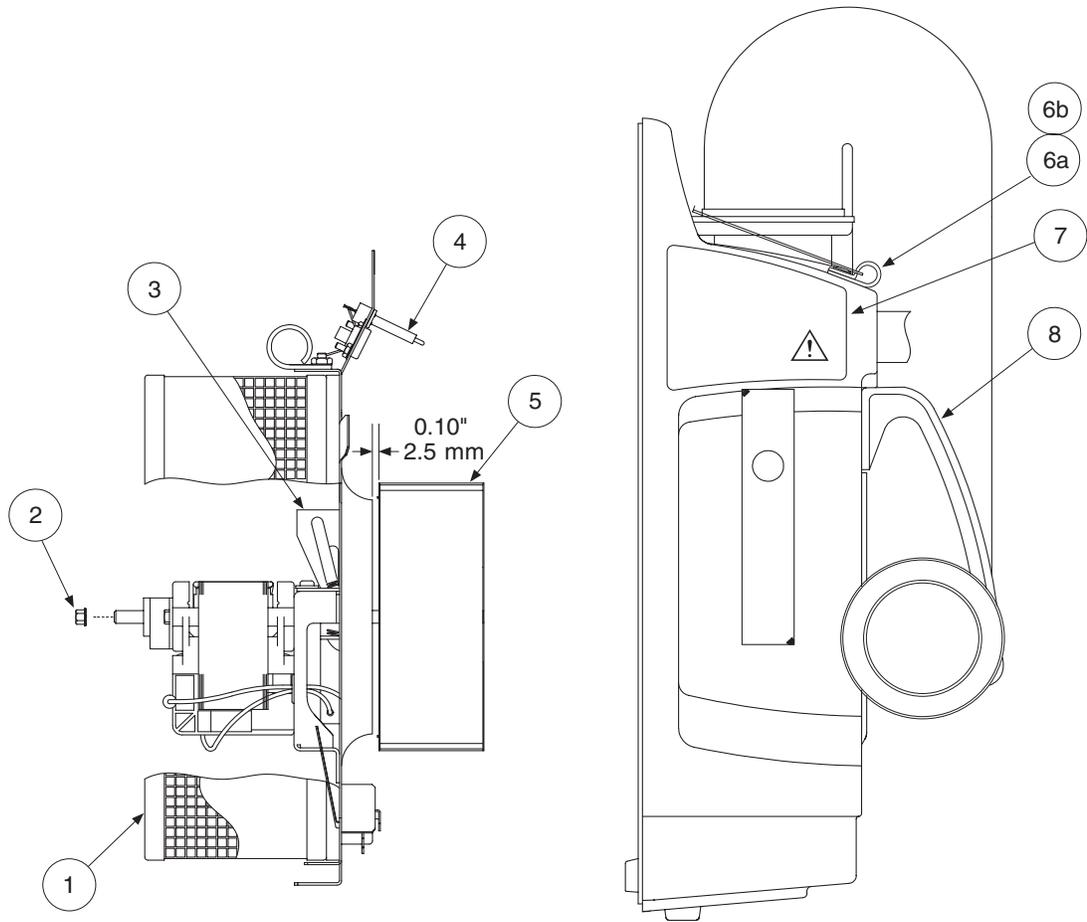

Figure 9 - TC3146 Detail Drawing
16. Reinstall the blower wheel, making sure there is 0.10" (2.5 mm) clearance between the wheel and the blower inlet ring (see fig. 9). NOTE: the hex screw must be aligned with the flat on the motor shaft.